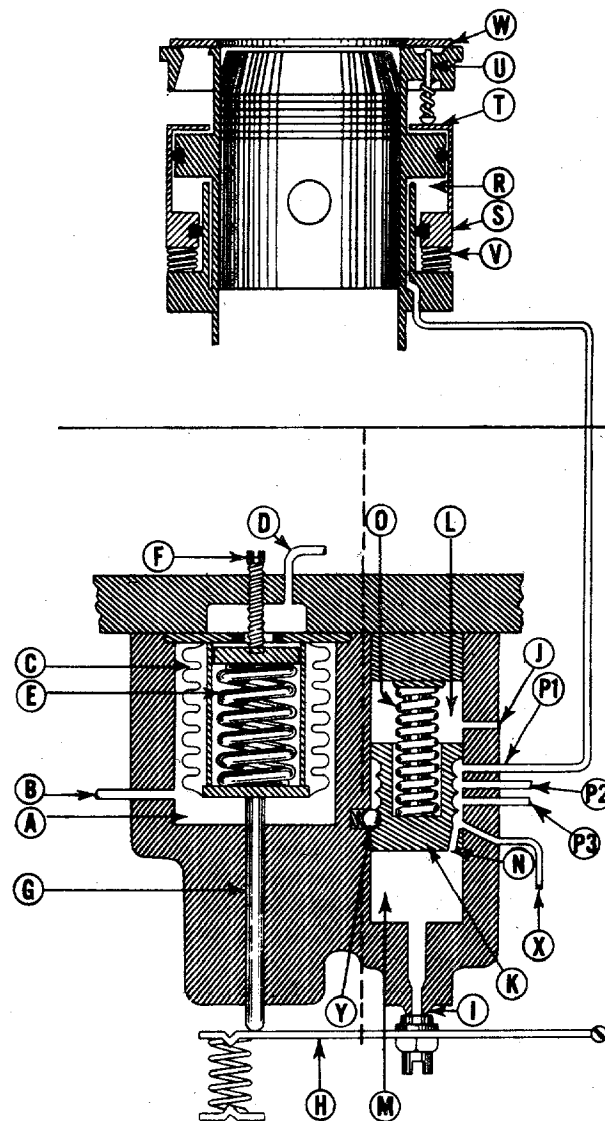

FIG. 9 Schematic Drawing of Cylinder Unloading Mechanism (Loaded)
2. CYLINDER UNLOADER MECHANISM--one for each controlled cylinder (top portion figures 9 and 10).
(NOTE: Figures 9 and 10 are schematic drawings and show only the flow of operation.)
1. PRESSURE SENSING DEVICE (Section to the left of the dashed line in the lower portion of Figures 9 and 10).
2. VALVING MECHANISM (Section to the right of the dashed line in the lower portion of Figures 9 and 10).
Under full capacity operation, as shown in Figure 9 orifice (I) is shut off. Oil pressure in lower chamber (M) increases because oil under pump pressure is being supplied through line (X). This pressure overcomes the force of spring (O) and floating piston (K) rises in the cylinder. As it rises, the annular grooves in the floating piston coincide in sequence with lines P1, P2 and P3 to the cylinder unloaders providing them with full oil pressure and permitting them to operate at full capacity. To make Figures 9 and 10 as simple as possible, only line P1 is connected to a cylinder unloader mechanism. Lines P2 and P3 are in reality connected to identical mechanisms, and while this discussion is concerned with only one unloader mechanism, it can be extended to cover them all.
Under full capacity operation (Figure 9), oil flows into annular chamber (R) under pressure sufficient to contract the unloader piston spring (V). When oil pressure forces springs to contract, the unloader piston (S) moves down, and takeup ring (T) and the suction valve